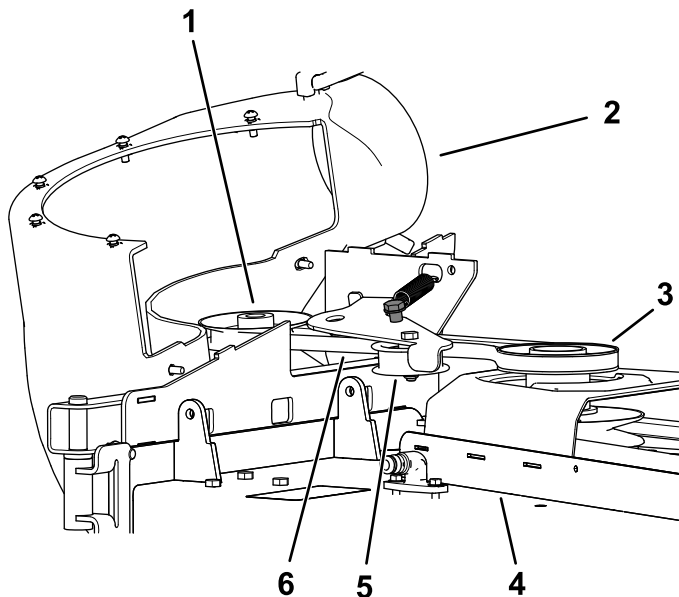

Figure 36
2. Pull back on the spring-loaded idler pulley to relieve the belt tension (Figure 36).
6. Install the new belt around the blower pulleys (Figure 36).
8. Install the new belt around the mower-deck pulley (Figure 36).
9. Pull back on the spring loaded idler pulley and install the belt onto the spring-loaded idler pulley (Figure 36).